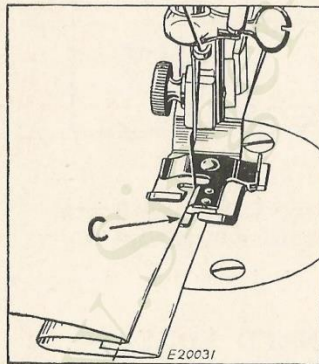

FIG. 238. INVISIBLE HEM WITH FOLDED EDGE BEING BLIND STITCHED
- e—Place the hem under the attachment with the edge of the **third fold** against the guide (C), as shown in Fig. 238. Adjust the guide (C) according to the weight and texture of the material, as instructed on page 150. Then lower the presser bar and commence sewing, carefully guiding the **fold** of the garment against the guide (C) so that the straight stitching will be made in the **first fold** of the hem and the tacking or sidewise stitches will be made in the fold of the garment, as shown in Fig. 238.